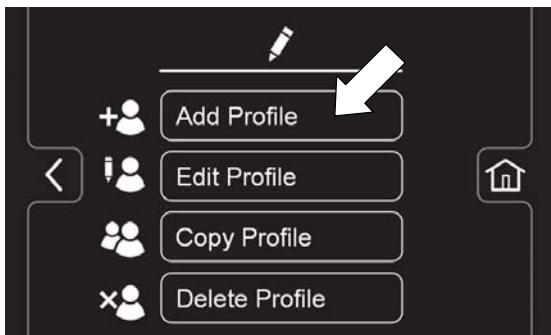

FIG. 141
2. Press the “Add Profile” button to add a new user profile (Figure 141).